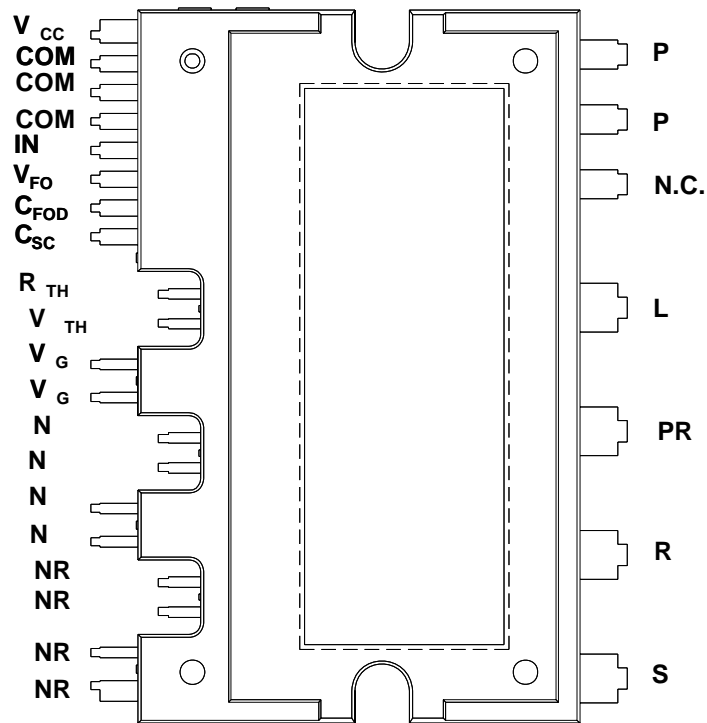

Fig. 2.
2. For the measurement point of case temperature( $T_C$ ), please refer to Fig. 2.